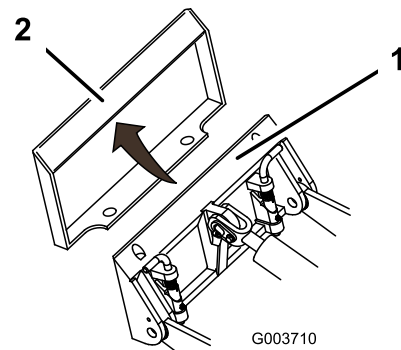

Figure 32
4. Position mount plate into the upper lip of the attachment receiver plate (Figure 32).